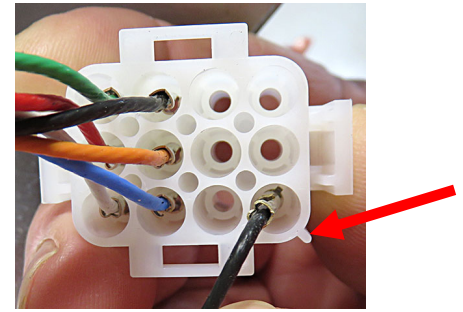

Figure 18
20. Insert the black wire of the new cable assembly into Pin 1 of the plug removed in step 18 (see Figure 18 and 19). Pin 1 is located by looking for the protruding ridge which is adjacent to Pin 1.